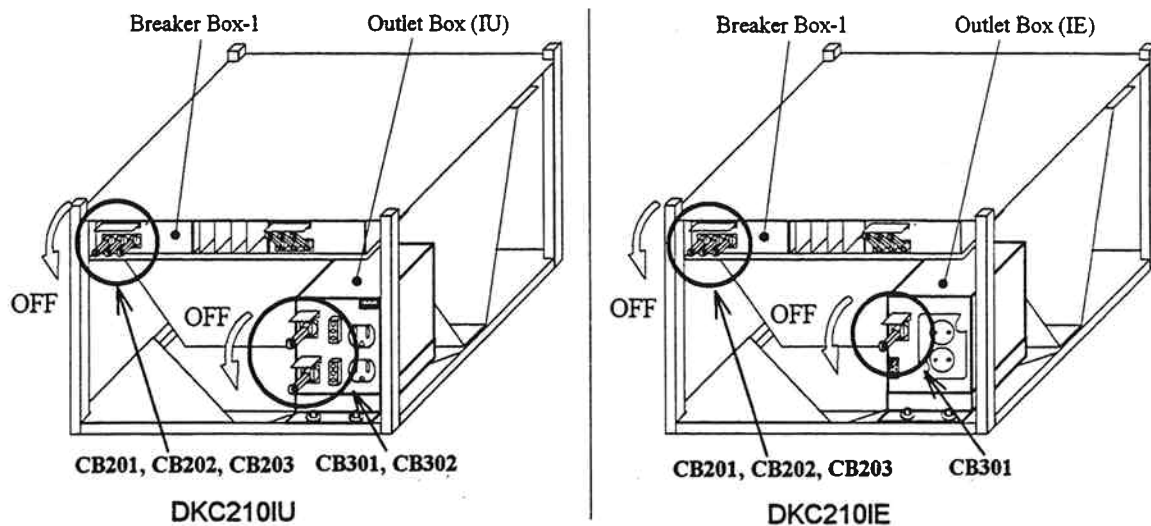

Fig. 1 Circuit Breakers to be Turned Off When Replacing Breaker Box-1
- a. Turn off the circuit breakers in the Disk Controller. Refer to Table 1 and Fig. 1.